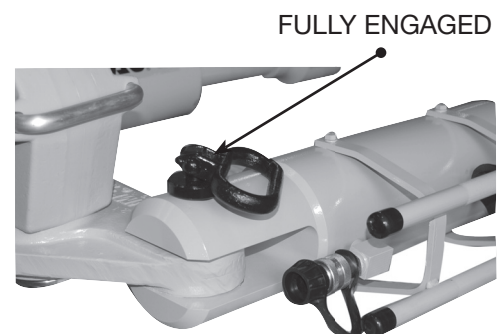

FIGURE 6
1. Check that the pins in the fork and clevis ends fit easily without excessive play. (**FIGURE 6**)
5. Connect the cylinder clevis fork to one of the bracket swing arm eyes, ensuring that the pins are fully engaged. (**FIGURE 6**).